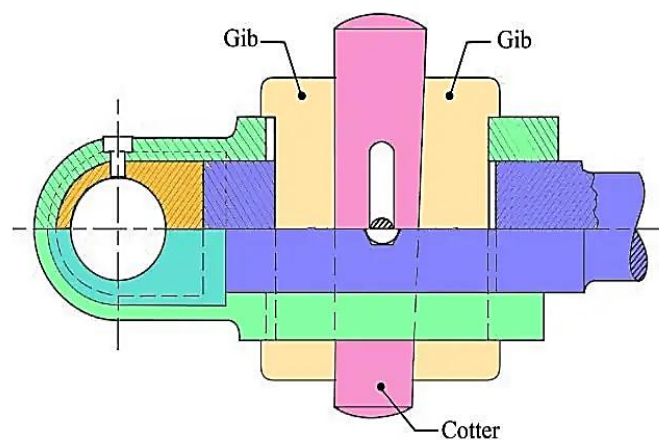

Fig. 3.32: Gib And Cotter Joint for Strap End of a Connecting Rod
3. Gib and Cotter Joint (Fig. 3.32)